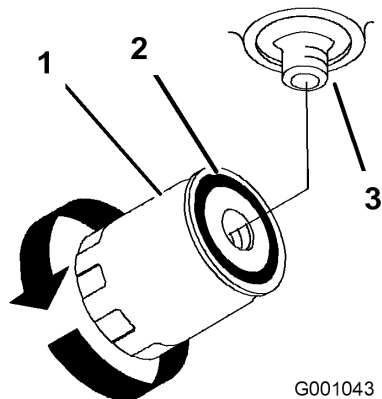

Figure 67
7. Apply a thin coat to the rubber gasket on the replacement filter (Figure 67).
9. Fill the hydraulic tank with hydraulic fluid until the fluid overflows the filter and then turn the oil filter clockwise until the rubber gasket contacts the filter adapter, then tighten the filter an additional 1/2 turn (Figure 67).